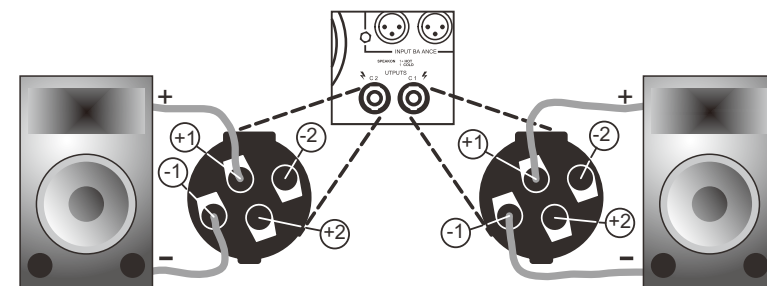

figure 10
4. Be sure to properly match the positive (+) and negative (-) leads of each wire (Figure 10).
5. Slide the connector insert (B) into the connector housing (A), making sure that the large notch on the outer edge of the insert lines up with the large groove on the inside of the connector housing. The insert should slide easily through the housing and out the other side until it extends approximately 3/4-inch from the end of the housing.
6. Slide the cable tensioner (D) along the cable and insert into the housing (A), making sure that the large notch lines up with the large groove on the inside of the connector housing (A). The cable tensioner (D) should slide easily into the housing until only 3/8-inch of the tensioner (D) extends from the back end of the connector.
7. Slide the coupler (E) along the cable and screw it onto the end of the housing (A). Before tightening, you may want to test the connector to make sure it has been assembled properly.